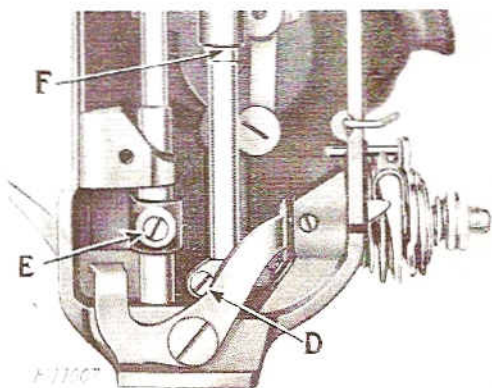

FIG. 21. NEEDLE BAR SET AT CORRECT HEIGHT
With the hook correctly timed, as instructed on page 21, turn the balance wheel toward you until the needle bar reaches its lowest point. With the needle bar in this position, the **upper timing mark** should be centred with the lower end of the needle bar bushing as shown at (F, Fig. 21). If the needle bar is not set at the correct height, loosen screw (D, Fig. 21) and move the needle bar up or down until the **upper timing mark** is centred with the lower end of the needle bar bushing as shown at (F, Fig. 21). Then securely tighten screw (D).
In case the presser bar is not set as instructed, remove the face plate and raise the presser bar lifter. Then loosen presser bar bracket screw (E, Fig. 21) and raise or lower the presser bar until proper height is obtained, making sure that the presser foot is correctly aligned with the feed dog. Then securely tighten screw (E, Fig. 21).